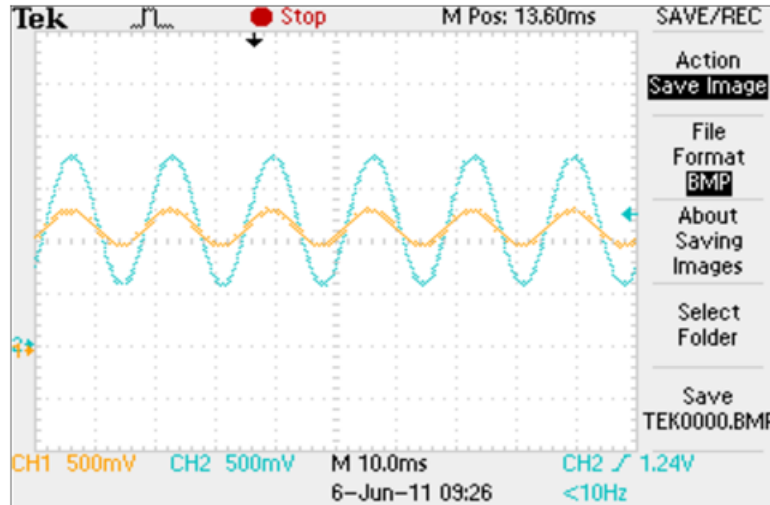

Figure 8. AC Voltage (Blue) and Current (Yellow) Waveform from Analog Output of the Master Controller (C8051F007) as Displayed on the Oscilloscope
- Turn on the oscilloscope and plug the ac input lines into a source of 110/220 Vac, then turn on the external dc power supply. With the load engaged, the voltage (blue) and current (yellow) waveforms will appear on the oscilloscope as shown in Figure 8. Vary the load to observe the changes in current.